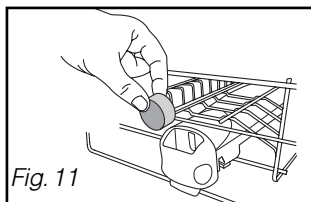
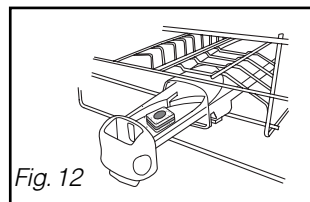

Fig. 11
Fig. 12
Non-multipurpose tablets should be placed in the external compartment (Fig 11) or, for optimum performance, pull out the dispenser drawer and lay the tablet inside (Fig 12).
- **Place the tablet** in the external compartment (Fig 11 on previous page) or, for optimum results, pull out the distributor's drawer and lay the tablet inside (Fig 12 on previous page).